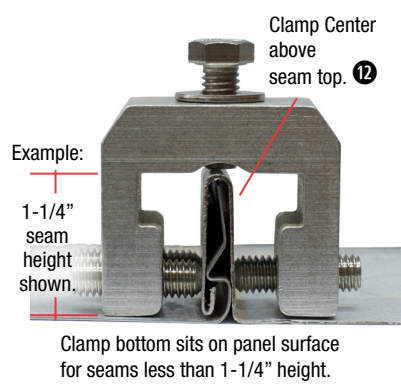

Fig.17
- 1) Determine installation location of SSCA and set clamps onto the seams with the single set screw side "B" against the seam's inside. Align clamps horizontally and about 12" apart as shown at Fig.17.